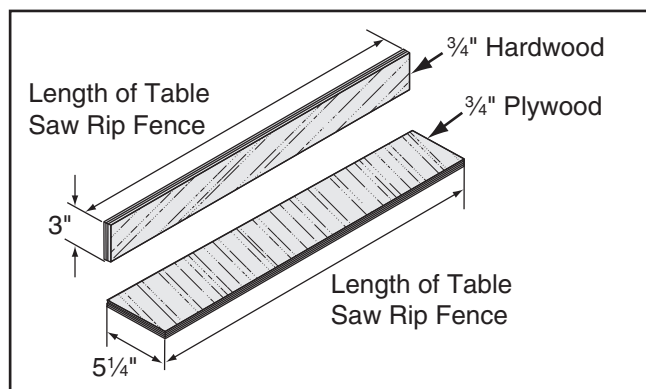

Figure 102. Auxiliary fence dimensions.
1. Cut a piece of $\frac{3}{4}$ " thick plywood $5\frac{1}{4}$ " wide and as long as your table saw fence; cut a piece of $\frac{3}{4}$ " thick hardwood 3" wide and as long as your table saw fence, as shown in **Figure 102**.